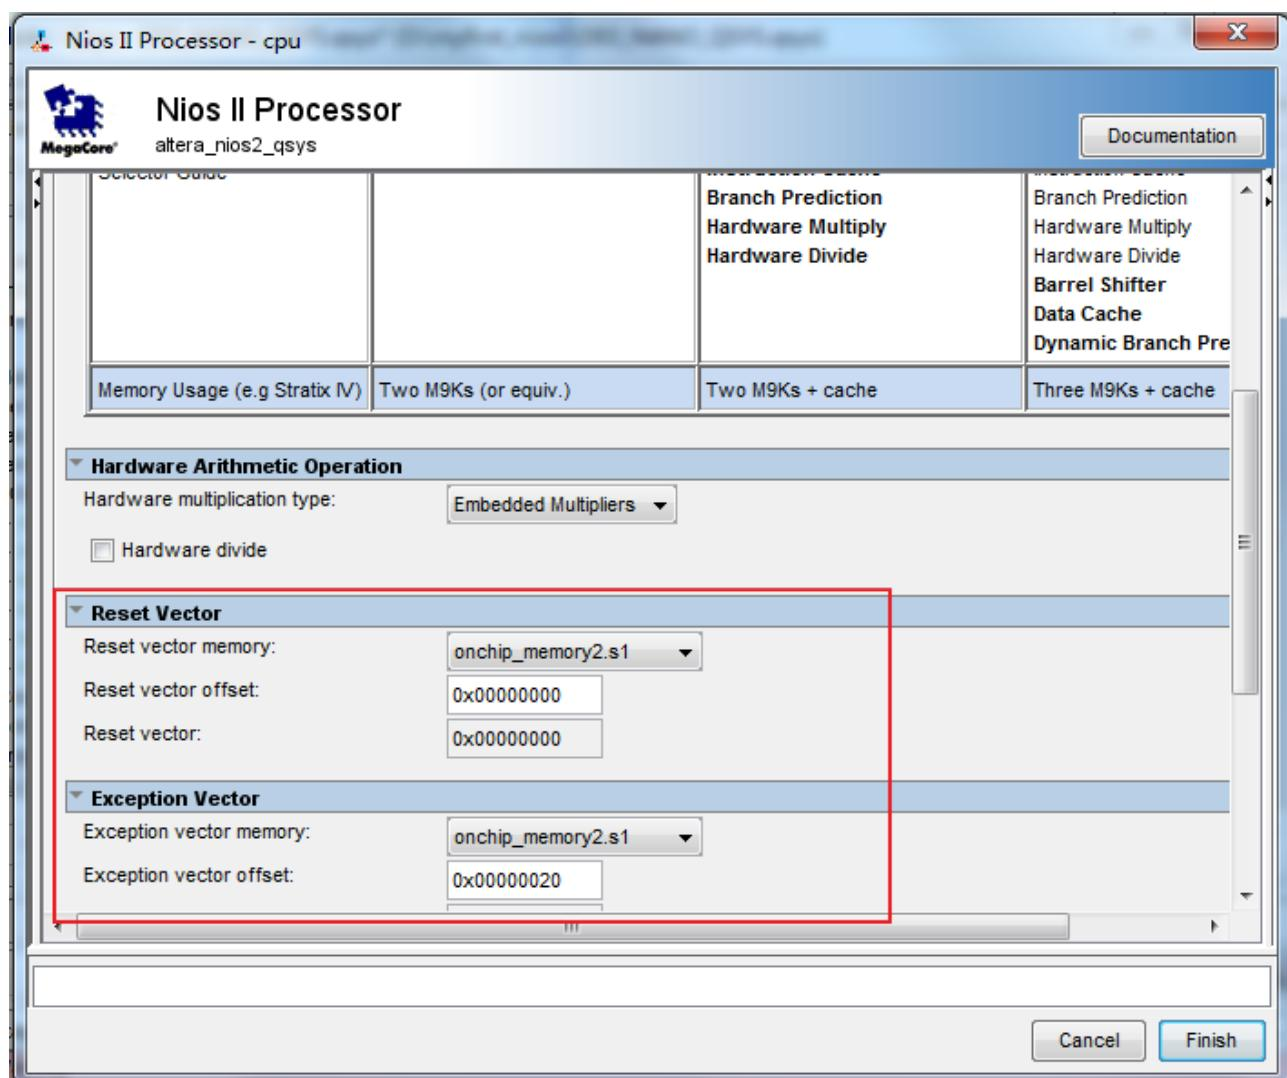
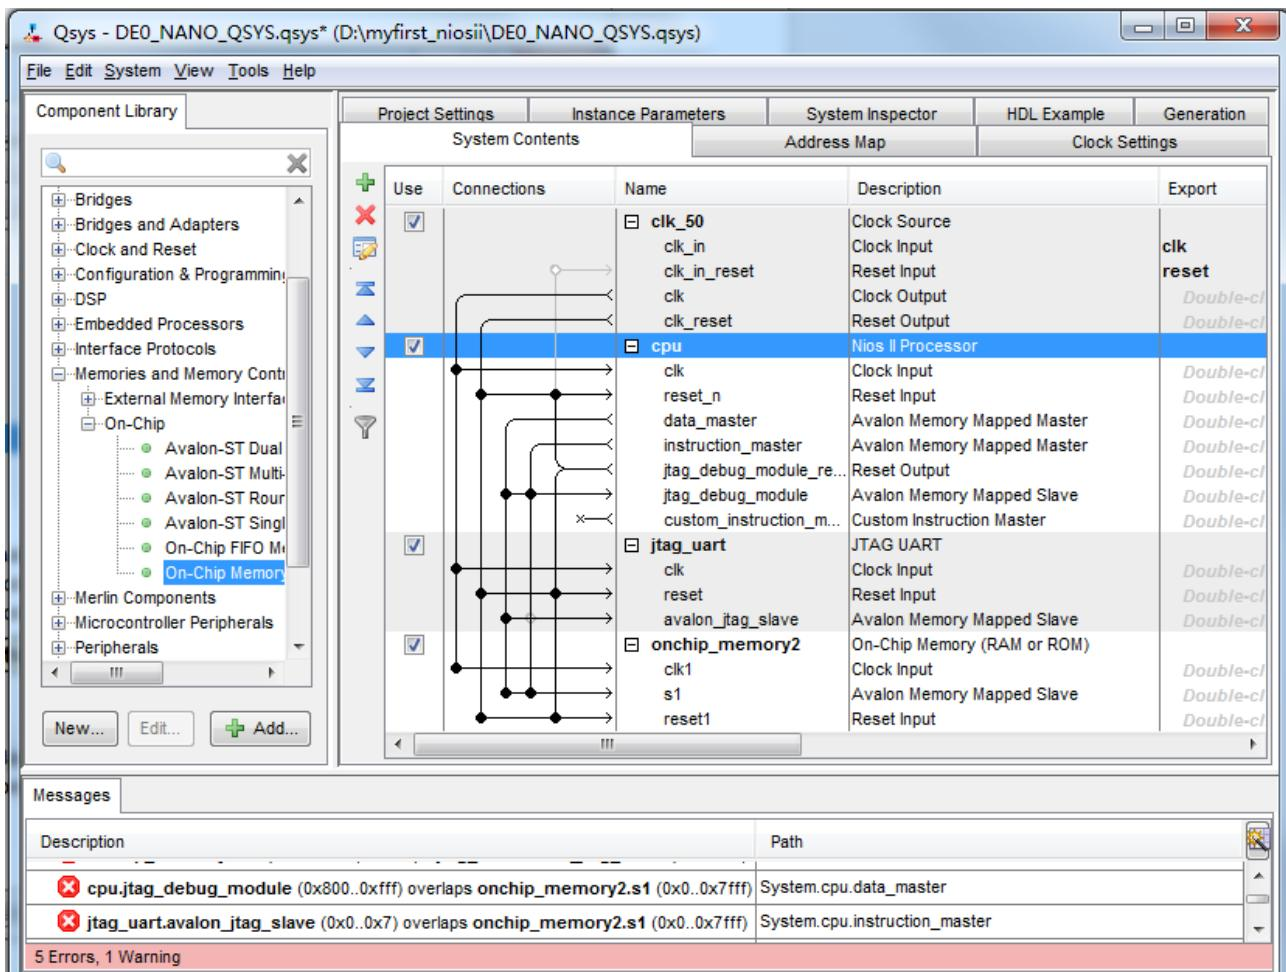

Figure 1-32 Update CPU settings
Figure 1-33 Update CPU settings Completely
20. Click **cpu** in the component list on the right part to edit the component. Update **Reset vector** and **Exception Vector** as shown in Figure 1-32. Then click **Finish** to return to the window as shown Figure 1-33.